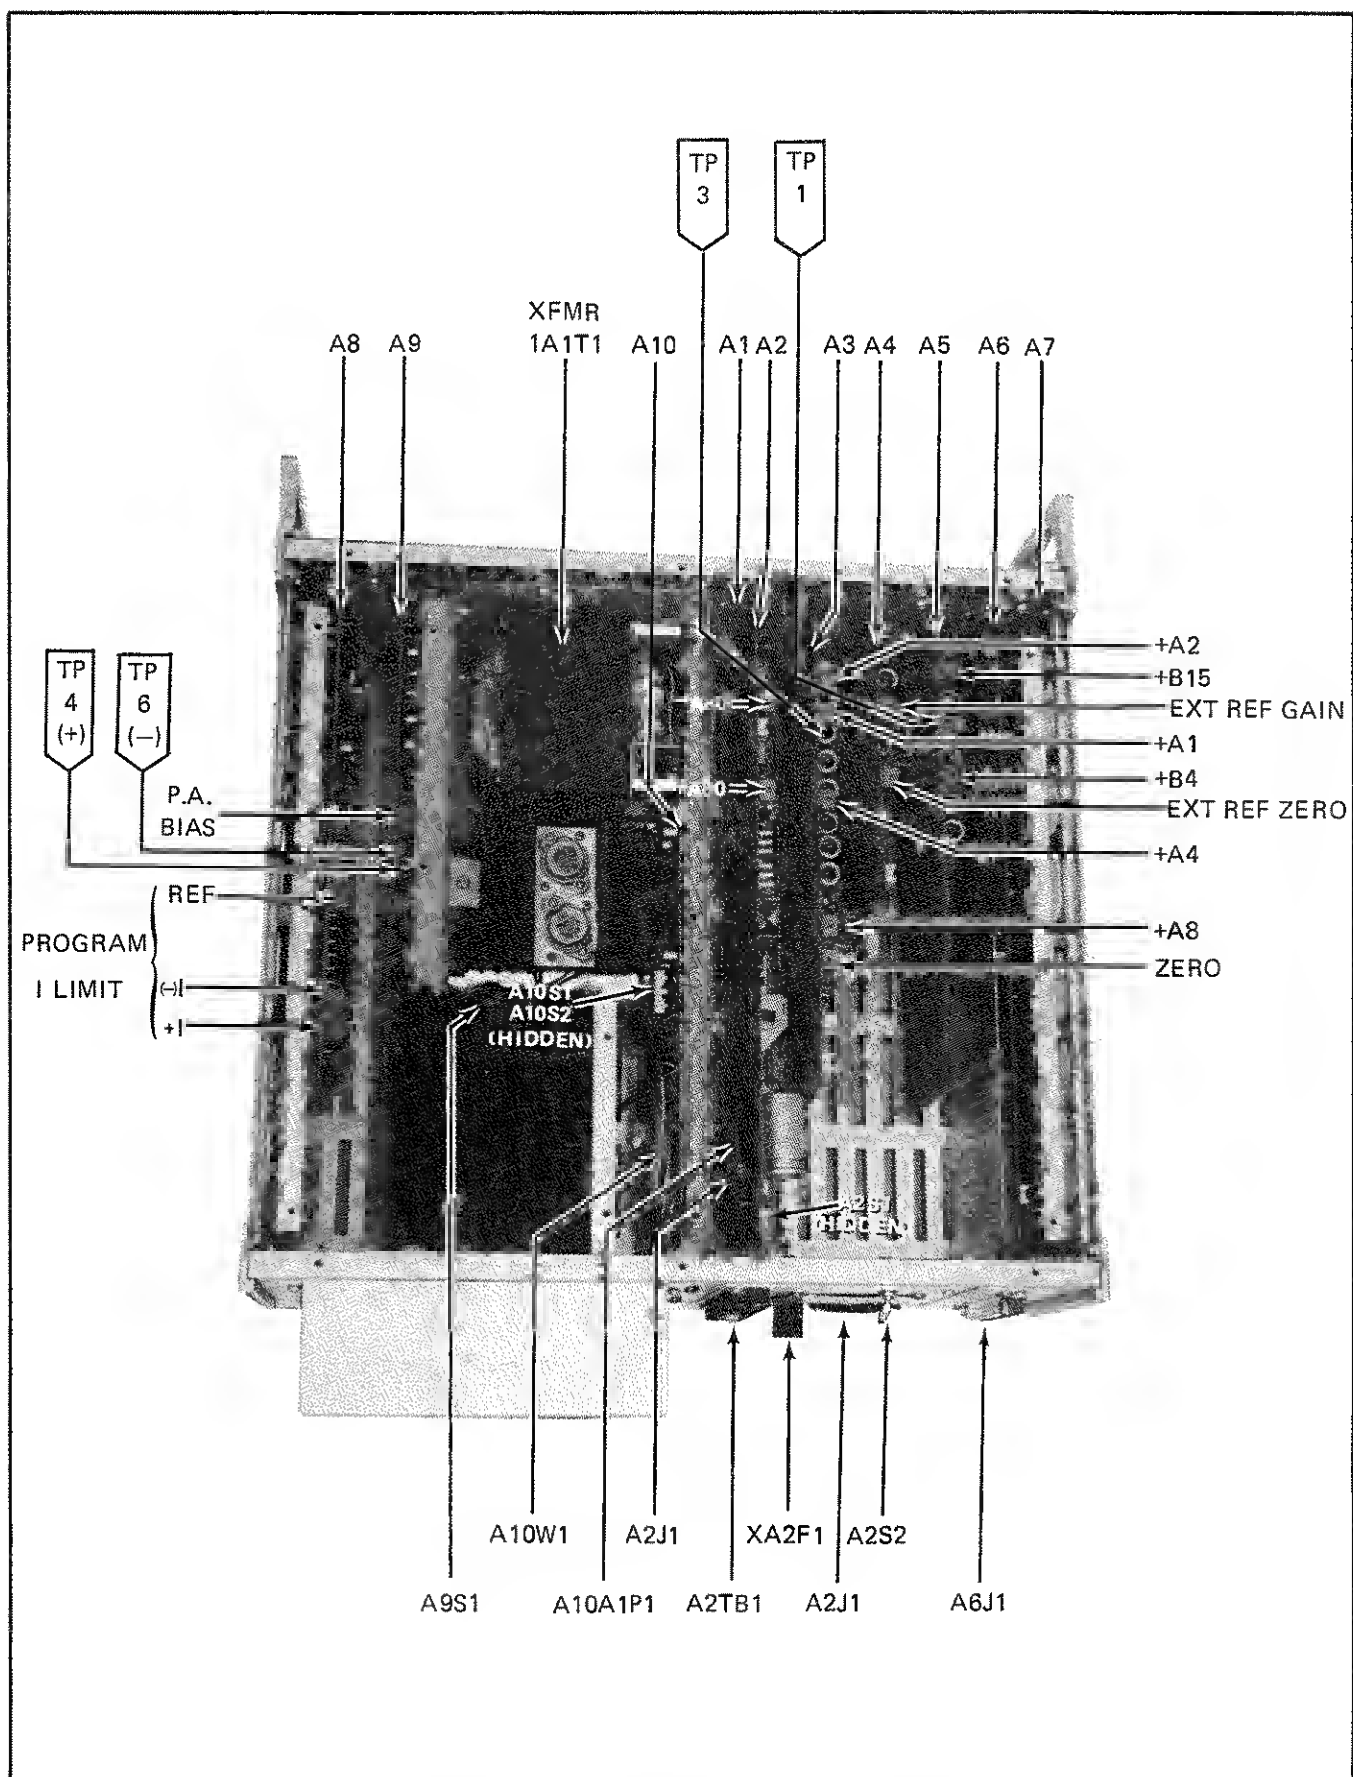

Figure 4-1. ASSEMBLY, ADJUSTMENT, AND TEST POINT LOCATIONS
4-14. Access to the interior of the instrument shown in Figure 4-1 is as follows:
4-18. The recommended period between successive calibrations for this instrument is 90 days or annually. The instrument must be calibrated following repairs. Use the test equipment defined in paragraph 4-2. Table 4-1. Assembly, adjustment, and test point locations are shown in Figure 4-1. Table 4-2 shows binary by decade coding for output magnitude control.
- b. Remove the guard cover and connect a dc voltmeter to A9TP4 (+) and A9TP6 (-). See Figure 4-1 for location of test points.